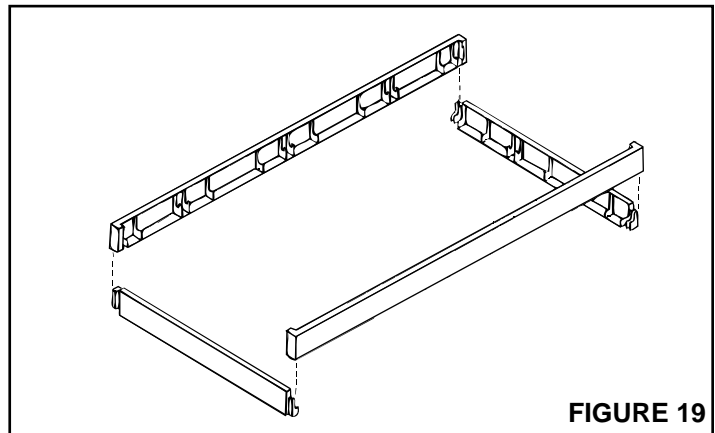

FIGURE 19
Refer to Figures 19 and 20.
- (a) Refer to Figure 19. Assemble the four (4) pieces of the Extension Frame.